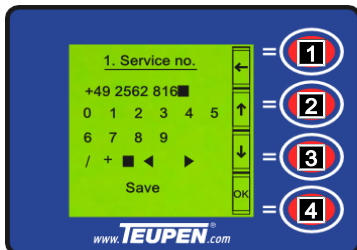

Fig. 92
1. Use the [function keys] (Fig.92/2 and 3) to select the desired digit or special character.
2. Use the [function key] (Fig.92/4) to confirm the selection.